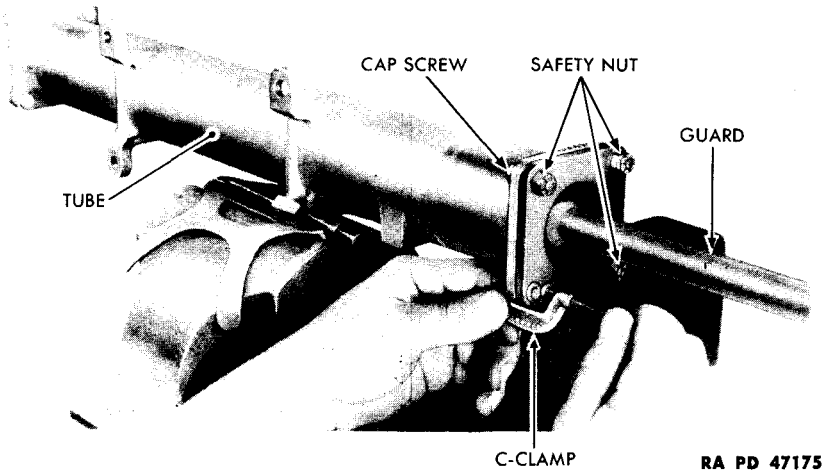

Figure 91 – Clamping Replenisher Guard to Tube
b. Remove Guard. Place replenisher in soft-jawed vise (fig. 89) making sure not to clamp tube in vise, since to do so might cause tube distortion. Hold one safety nut and remove its companion cap screw that is one of four cap screws that secure guard to tube (fig. 89). Clamp guard to tube (fig. 91) and remove remaining three cap screws and safety nuts. C-clamp is needed to hold guard against tension of spring. Hold end of guard against tension of spring and remove C-clamp. Then slowly release pressure against spring to remove guard and spring. Care should be taken to prevent spring from flying out of tube.
(3) Place tube and piston in vise equipped with copper jaws. Then install spring over rod section of piston and into tube. Guide spring slowly into tube by grasping spring at guard end of tube. When spring is very nearly pushed into tube, place end of guard against end of spring and push spring into tube and end of guard into position at rear end of tube (fig. 90). Hold guard against spring tension, aline screw holes, then install a small C-clamp to hold spring in tube and guard in position on rear end of tube (fig. 91).